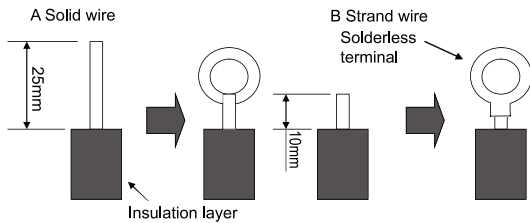

Fig.33
(1). For solid core wiring (Fig.33)
(2). For strand wiring (Fig.33)